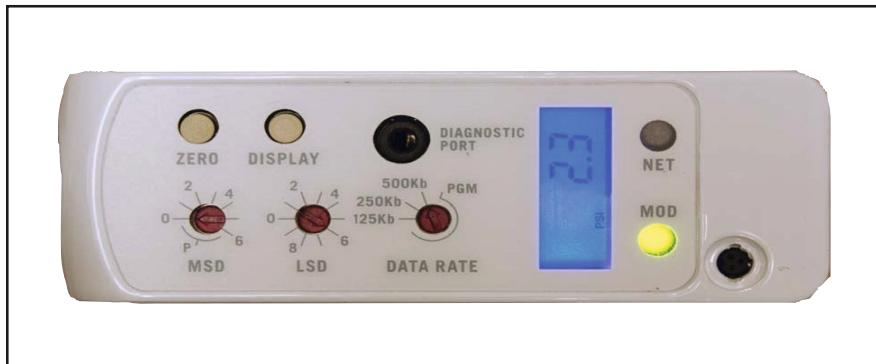

Figure 2-7 Display with PSI Reading
2. Looking at the top of the GF125/GF126 Series, press the “Display” button, starting at the MACID, four times to “PSI” or five times to “kPa” or until the LCD displays the labels “PSI” or “kPa”. The GF125/GF126 Series will display pressure in units of PSIA or kPa. Press and hold down the Zero button a minimum of 5 seconds or until the display reads 0.00, with the last two digits flickering at different values. The pressure transducer zeroing procedure can be done while the display is either in PSIA or kPa output. Refer to Figure 2-7.